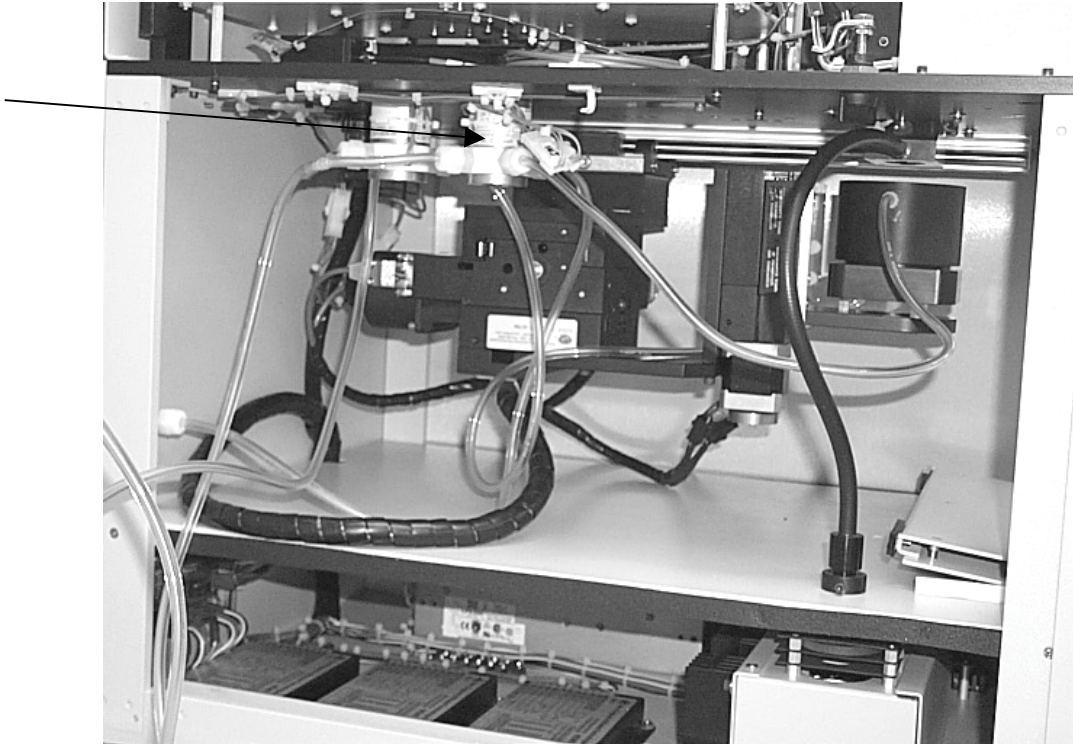

Figure 6.
10. Mount the new valve plate by first removing the screws from the old plate. This hardware will be mounted from the top side of the laser base plate and the other mounting hole will be attached from the bottom side as with the original valve plate. (See Figure 6) The I/O board may have to be loosened to gain access to the back screw if the unit is equipped with Auto-focus.